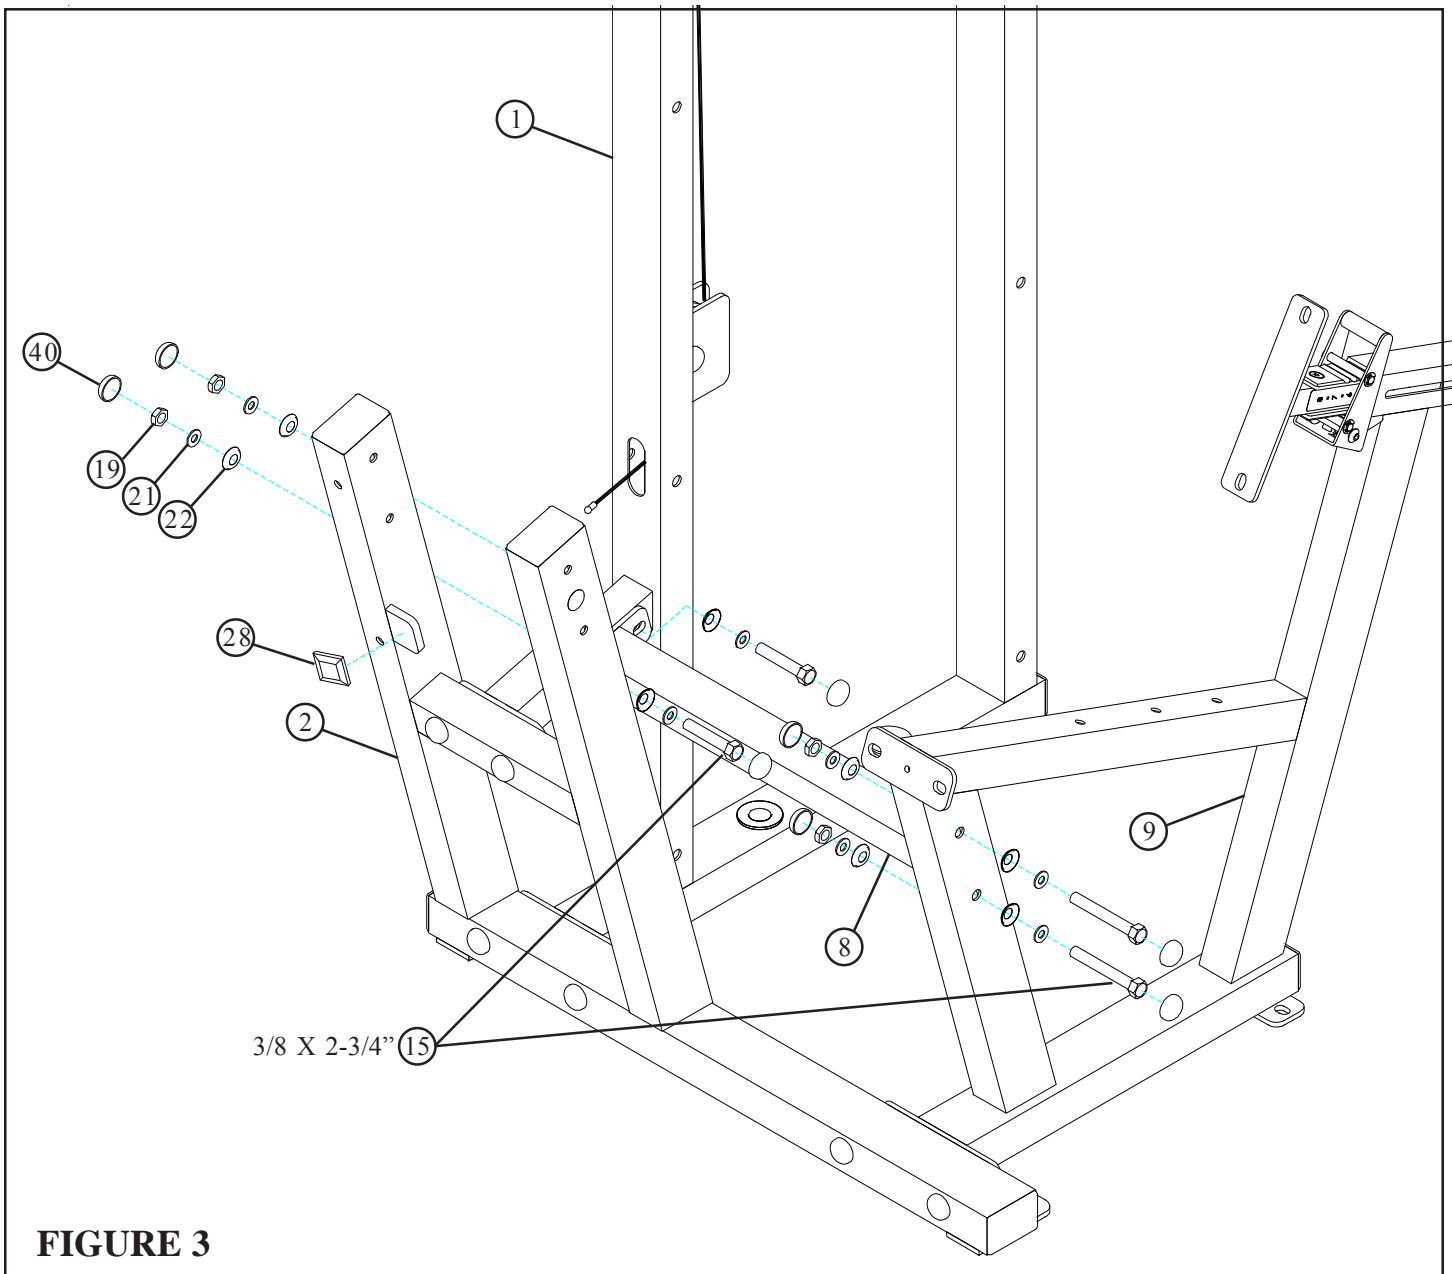

FIGURE 3
- **LOOSELY** assemble the CROSS SUPPORT (8) to the TOWER (1) and SEAT FRAME (9) using eight RH CAPS (40), four 3/8 X 2-3/4" BOLTS (15), eight 3/8" SAE WASHERS (21), eight 3/8" RH WASHERS (22) and four 3/8" LOW HEIGHT LOCK NUTS (19) as shown in FIGURE 3.
- Assemble one 1-1/4" RUBBER BUMPER (28) to the PIVOT ARM SUPPORT (2) as shown in FIGURE 3.
1. Tighten the CROSS SUPPORT (8) to the TOWER (1) and SEAT FRAME (9).
2. Tighten the SEAT FRAME (9) to the PIVOT ARM SUPPORT (2).
3. Tighten the PIVOT ARM SUPPORT (2) to the TOWER (1) (upper and lower).
4. Snap RH CAPS (40) over the RH WASHERS (22) on all tightened connections.